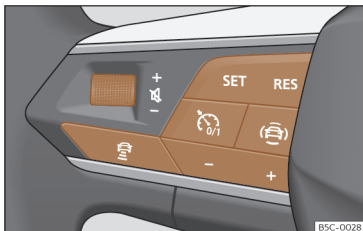

Fig. 137 On the multifunction steering wheel: buttons for operating the ACC.
- Press the  button on the multifunction steering wheel >>> Fig. 137.
- To start regulation, press the button **SET** >>> Fig. 137.
To program the speed, press the + or - >>> Fig. 137 buttons to the desired speed. The speed is adjusted at intervals of 10 km/h (5 mph).
- Press the button  and then the button + or - >>> Fig. 137.
- Briefly press the button  >>> Fig. 137 or press the brake pedal.